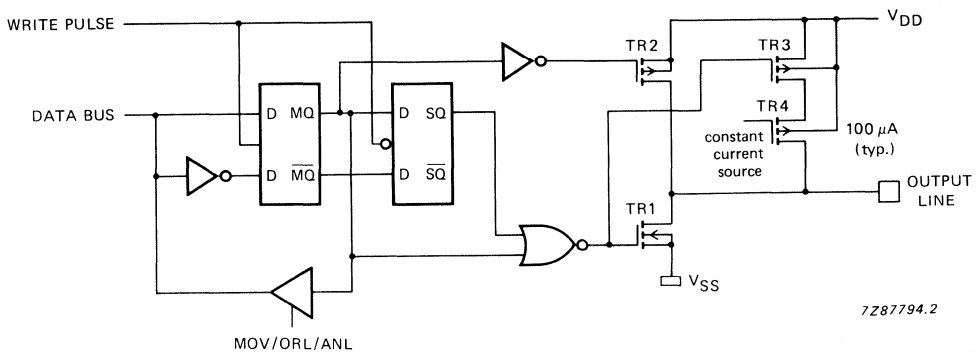

Fig. 12 Push-pull output.
- Option 3 – PUSH-PULL OUTPUT; drive capability of the output will be  $1,6\ \text{mA}$  (min.) at  $V_{DD} = 5\ \text{V}$  in both polarities. To avoid a large current flowing through the output transistors during the input mode, these push-pull pins must only be used as outputs (Fig. 12).